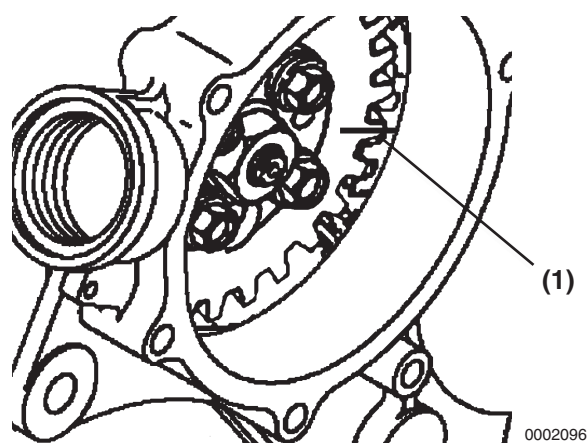

Figure 4-3-11
14. To aid in reassembly, make reference marks (**Figure 4-3-11, (1)**) on the drive gear and idler gear.